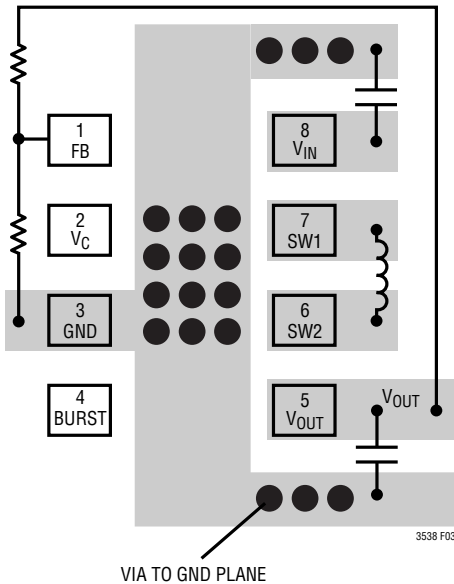

Figure 3. LTC3538 Recommended PCB Layout
The LTC3538 switches large currents at high frequencies. Special care should be given to the PCB layout to ensure stable, noise-free operation. Figure 3 depicts the recommended PCB layout to be utilized for the LTC3538. A few key guidelines follow:
1. All circulating current paths should be kept as short as possible. This can be accomplished by keeping the routes to all components (except the FB divider network) in Figure 3 as short and as wide as possible. Capacitor ground connections should via down to the ground plane in the shortest route possible. The bypass capacitor on  $V_{IN}$  should be placed as close to the IC as possible and should have the shortest possible paths to ground.
2. The small signal ground pad (GND) should have a single point connection to the power ground. A convenient way to achieve this is to short this pin directly to the Exposed Pad as shown in Figure 3.